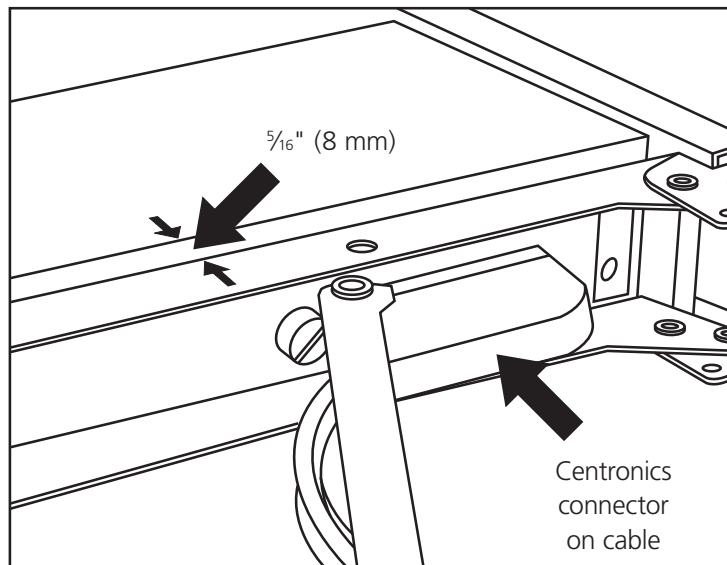

Figure 3-11. Centronics connectors.
- Make sure the Centronics connectors on the KVM module and attached cable are firmly mated. See Figure 3-11.